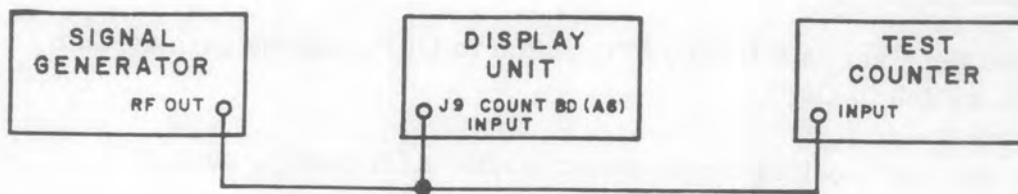

Figure 4-11. Test Setup, Counter Readout Accuracy Test
- (1) Interconnect the counter with a low-frequency signal generator and the test counter as shown in Figure 4-11.